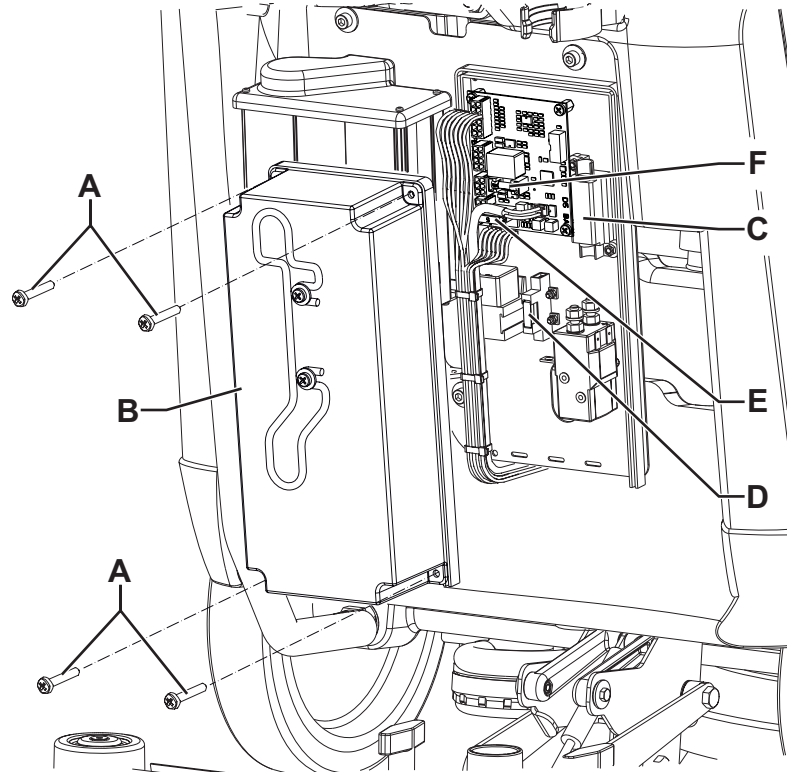

Figure 10
1. Disconnect the battery connector (29).
2. Remove the screws (A, Fig. 10), then carefully remove the electrical component box cover (B).
- (C): F1 (40 A) circuit breaker, brush motor
- (D): F2 (30 A) blade fuse, vacuum system motor.
- (E): F3 (5 A) blade fuse, solenoid valve and electronic board
- (E): F4 (20 A) glass fuse, brush disengagement system